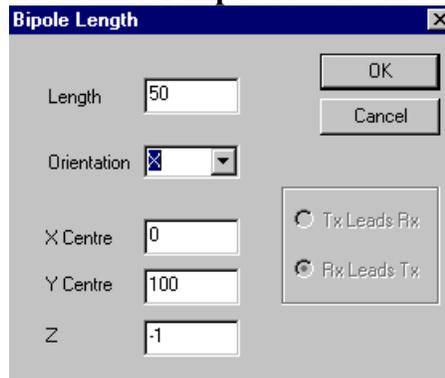

Fig. 3a
- If you select **Voltage Dipole**, the **Bipole Length** dialog (Fig. 3a) will open to be followed by the **Extended Source** dialog (Fig. 3b). Go through the steps described in the *Current Dipole* section